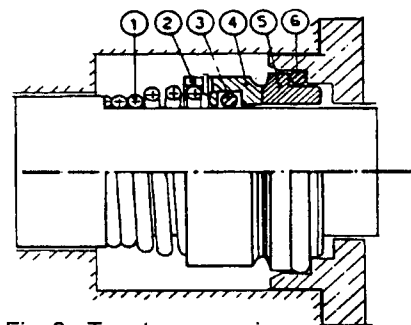

Fig. 2 - Tenuta meccanica
Per un corretto montaggio e ricambio della tenuta meccanica, procedere come segue (Fig. 2):
For a correct mounting and replacement of the mechanical seal proceed as follows (fig.2):
- Put the fixed parts (fig.2 part.5 and 6) in the appropriate seat wetting before with water the seal 6 in order to facilitate the mounting. Push to the bottom in order to be sure that the seal leans on all the seat.